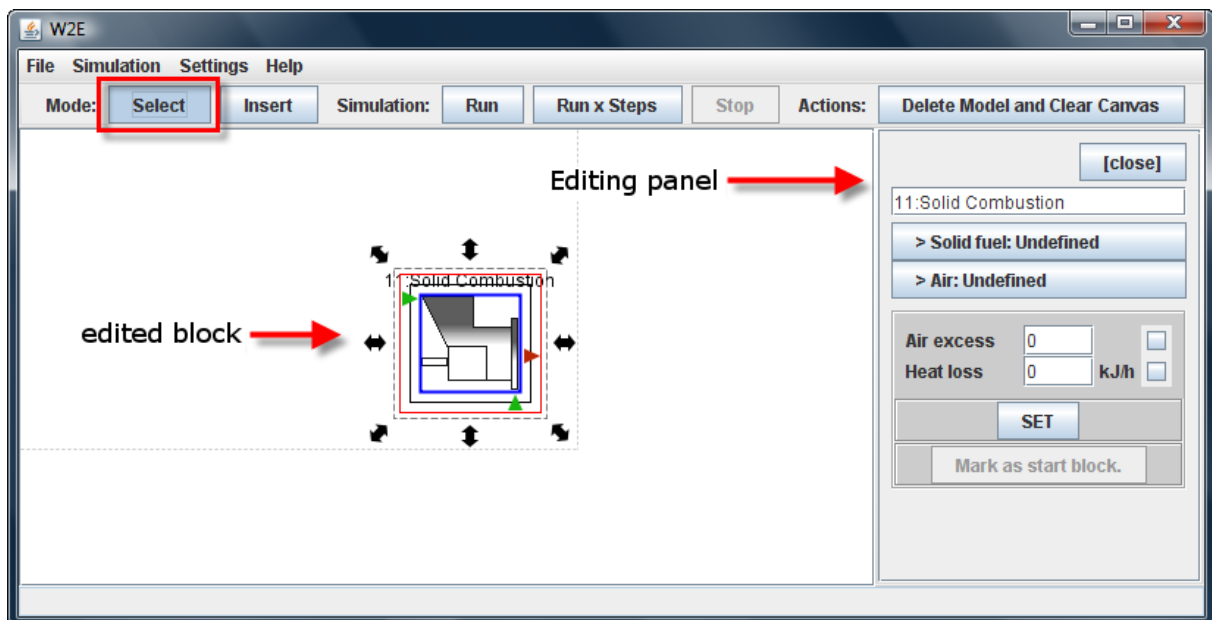

FIG. 3: Select mode
2. *Select mode* (Fig. 3), which allows to edit the properties of entered blocks and flows and also to rearrange the contents of the canvas.